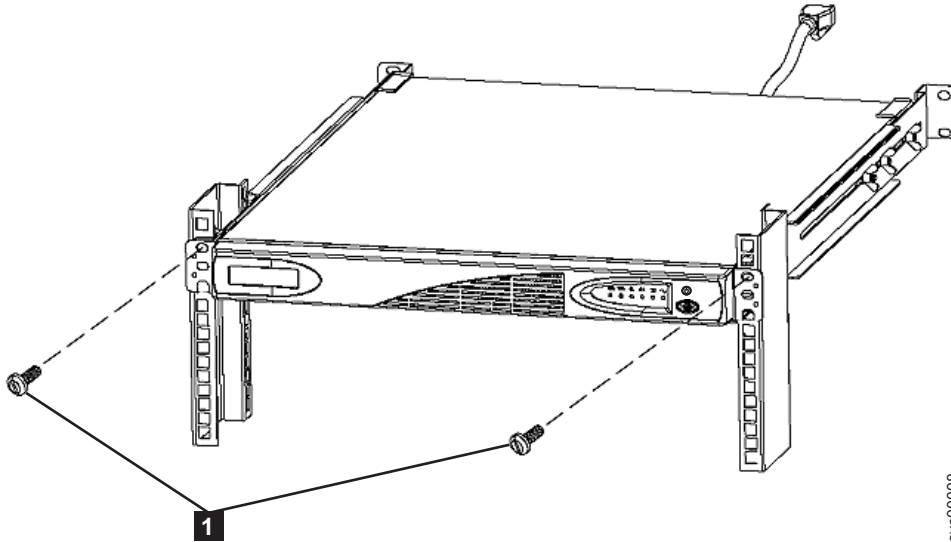

Figure 323. Removing the front screws from the 2145 UPS-1U
1. Loosen and remove the two M6 × 10 screws from each side of the 2145 UPS-1U. See **1** in Figure 323.